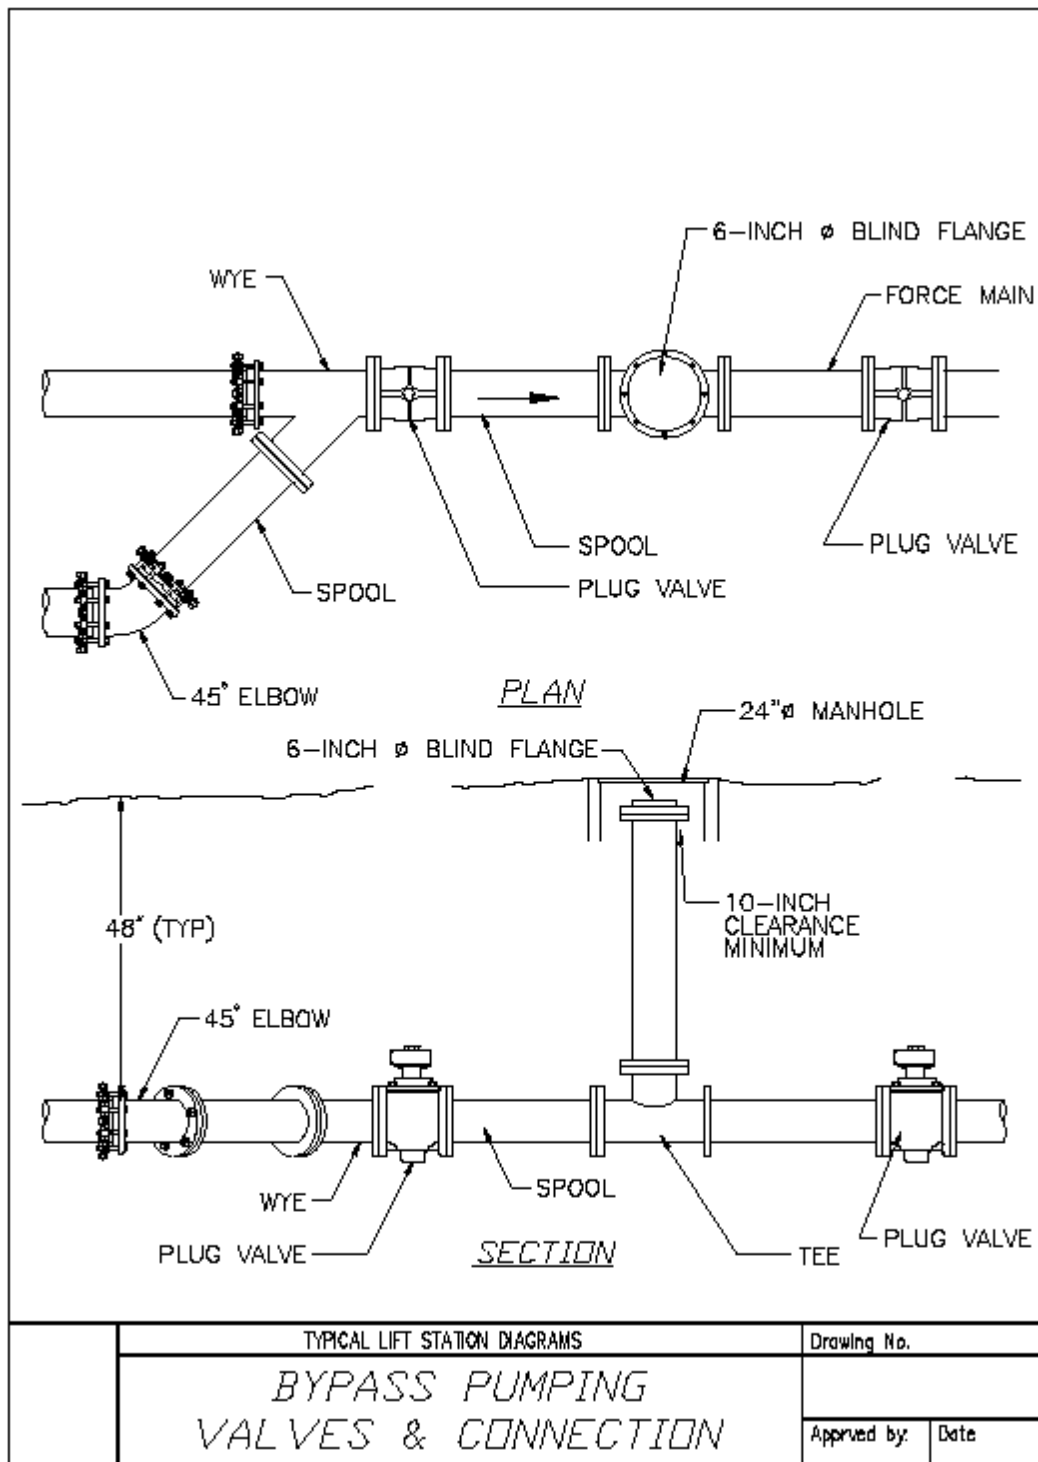

Figure 2
12. Provide a quick connect to the force main for emergency pumping within the valve vault (refer to Figures 2 & 3).